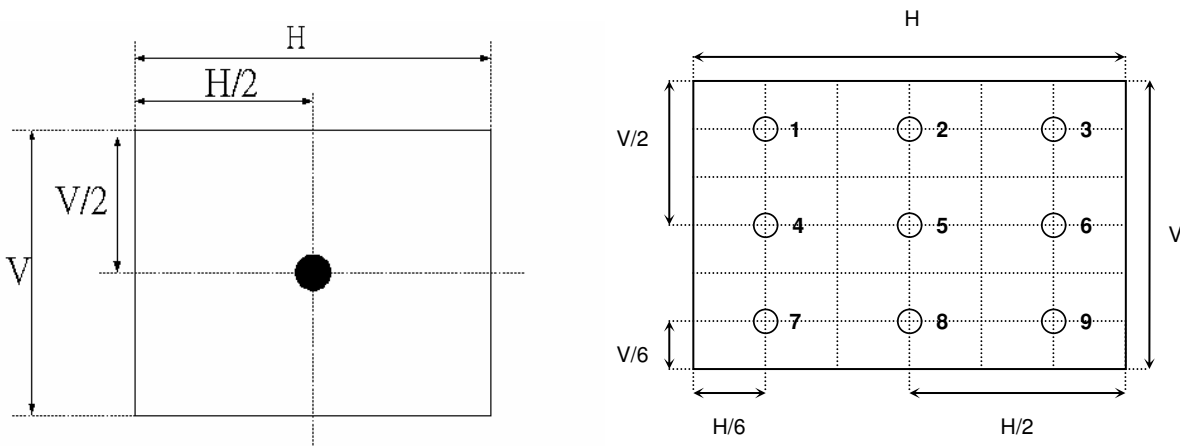

Fig.4-2 Optical measurement point
2. Surface Luminance is luminance value at point 5 across the LCD surface 50cm from the surface with all pixels displaying white. For more information see Fig. 4-2. When lamp current $I_{out}=8.5\text{mA}$, $L_{WH}=L_{on5}$, where L_{on5} is the luminance with all pixels displaying white at center 5 location.